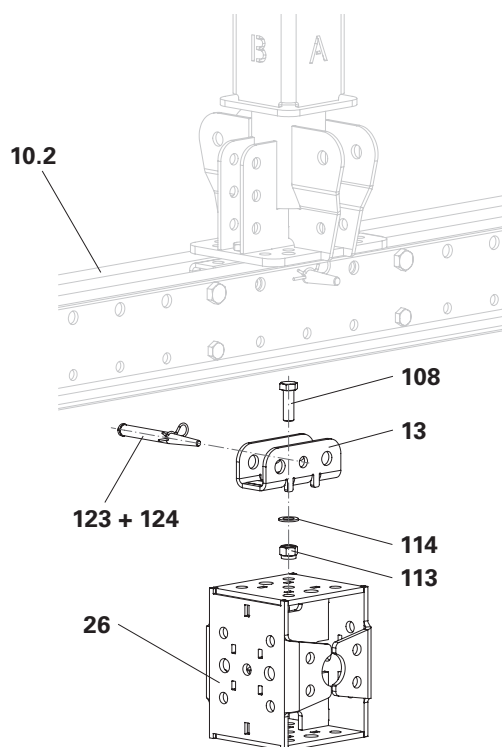

Fig. B3.21
- With the Crane Rail S49, the support wedgebox is mounted vertically. (Fig. B3.21)